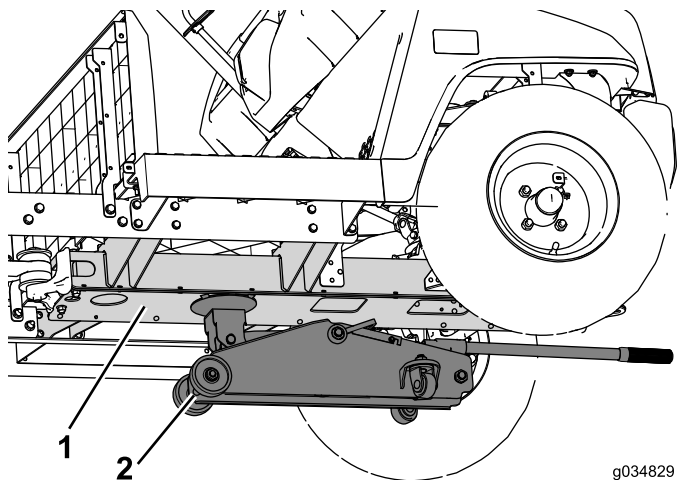

Figure 64
2. Use a floor jack under the center channel to support the front of the machine (Figure 64).